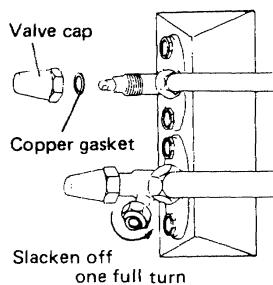

Fig. 35
- Slacken off the flare nut at the charging port one full turn. Fig. 35